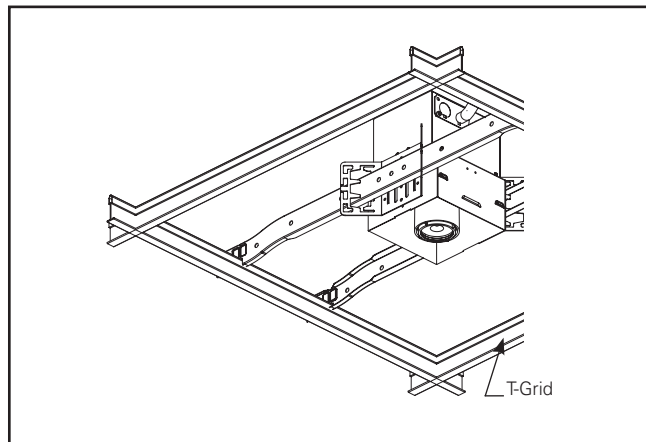

Figure 1.8.
4. Once the connections are done, Install the fixture plate with light into the housing. Ensure wires do not get pinched along the edges of plate. Install #8-32 screws. (Figure 1.8.)